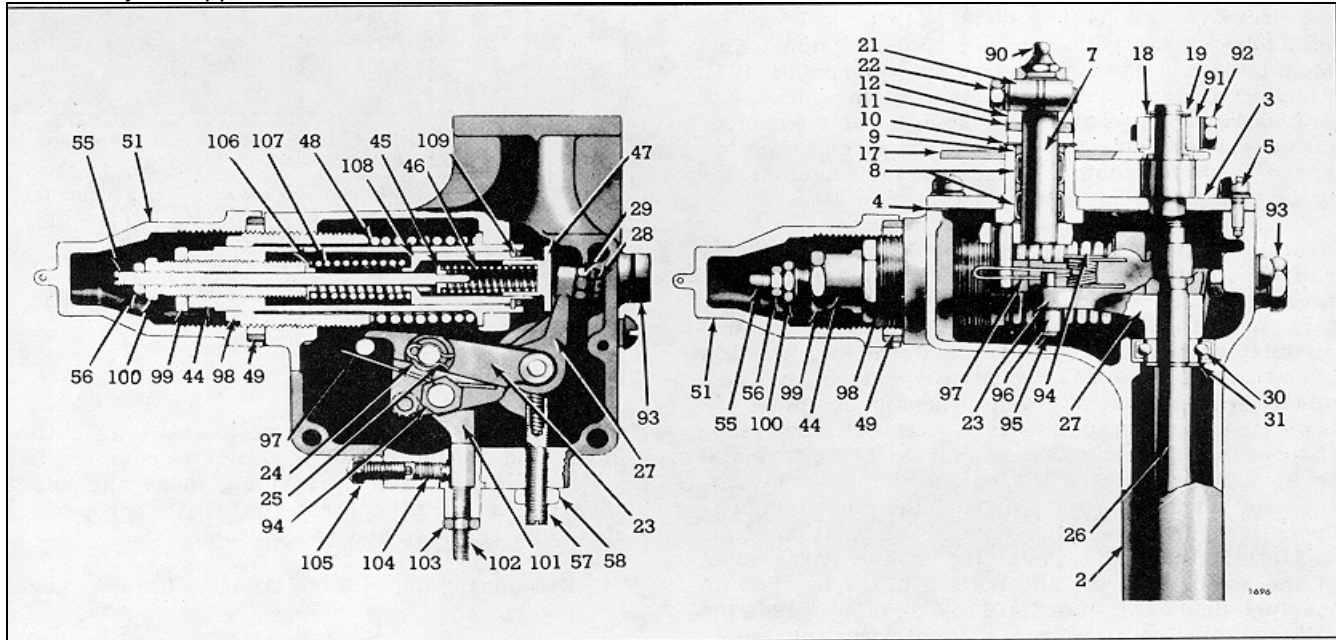

Fig. 1 - Fuel Modulating Governor
2. Slide the riser (67) over the shaft (66) and against the finished surfaces of the governor weights (Fig. 1).
3. Assemble the riser thrust bearing (60) on the weight shaft (66) with the bearing race with the smallest inside diameter against the thrust riser. Incorrect installation of the bearing will result in erratic operation of the governor.
4. Insert the weight carrier and shaft assembly (66) in the weight housing.
**NOTE 1:** The finished surface of the operating fork must be placed against the outer side of the thrust bearing as shown in Fig. 1.
8. Affix a new gasket to the weight housing cover (former governors only) and place the cover in position. Install the four weight housing-to- control housing bolts (69) with lock washers and tighten the bolts.
10. Refer to Figs. 1 and 2 and position the fuel rod (14) over the differential lever pin. Place a
12. Place a new gasket (4), Fig. 9, on the governor control housing and mount the governor cover on the housing with the pin on the throttle shaft (7) registering with the machined slot in the differential lever (23) as shown in Fig. 1.
The fuel-modulating governor (Fig. 1) has been developed to improve combustion and fuel economy during low-speed full-throttle operation. The "Fuel-Modulator" incorporated with the mechanical limiting speed governor automatically controls the fuel input to assure complete combustion, thus providing maximum fuel economy, clean exhaust, and longer engine life. This control is assured regardless of the throttle setting maintained by the operator.